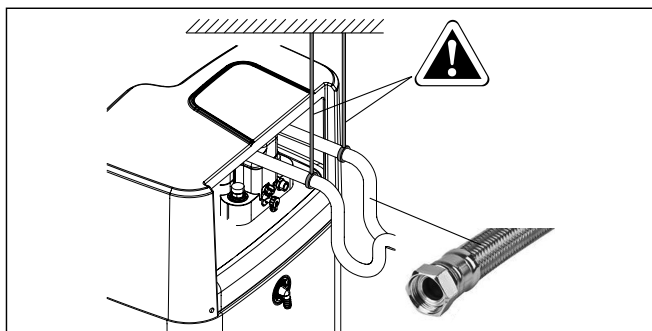

Fig. 3-31 Supporting rear-facing hydraulic lines
- For rearward facing connections: Support hydraulic lines suitably according to the spatial conditions, see Fig. 3-31.